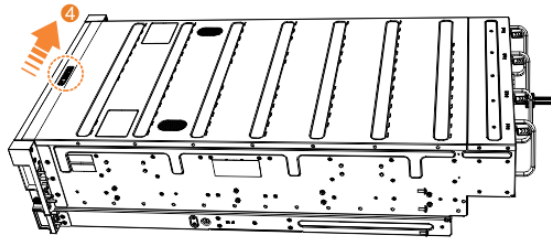

Figure 131. Locking the top cover
10. Lock the cover into position by sliding the release lever (4), as shown in Figure 131 on page 178